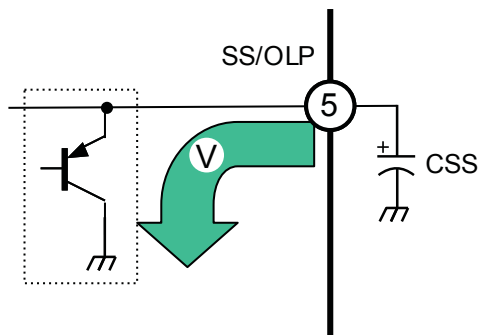

Figure 11. Reset circuit at power turn off
**Operation at power supply turn off** At power supply turn off, voltage on capacitor  $CSS$ , which is externally connected to the SS/OLP pin, is discharged by way of an internal RESET circuit as shown in figure 11. The RESET circuit does not operate in normal operation while the internal regulator circuit operates.